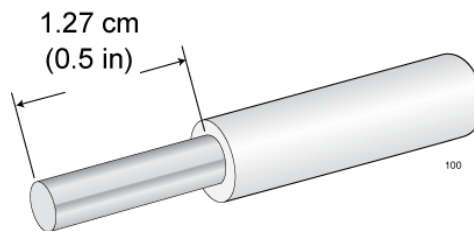

Figure 38. Stripping the Grounding Wire
1. Prepare an adequate length of stranded grounding wire (10 AWG) for the ground connection by stripping it as shown in Figure 38.